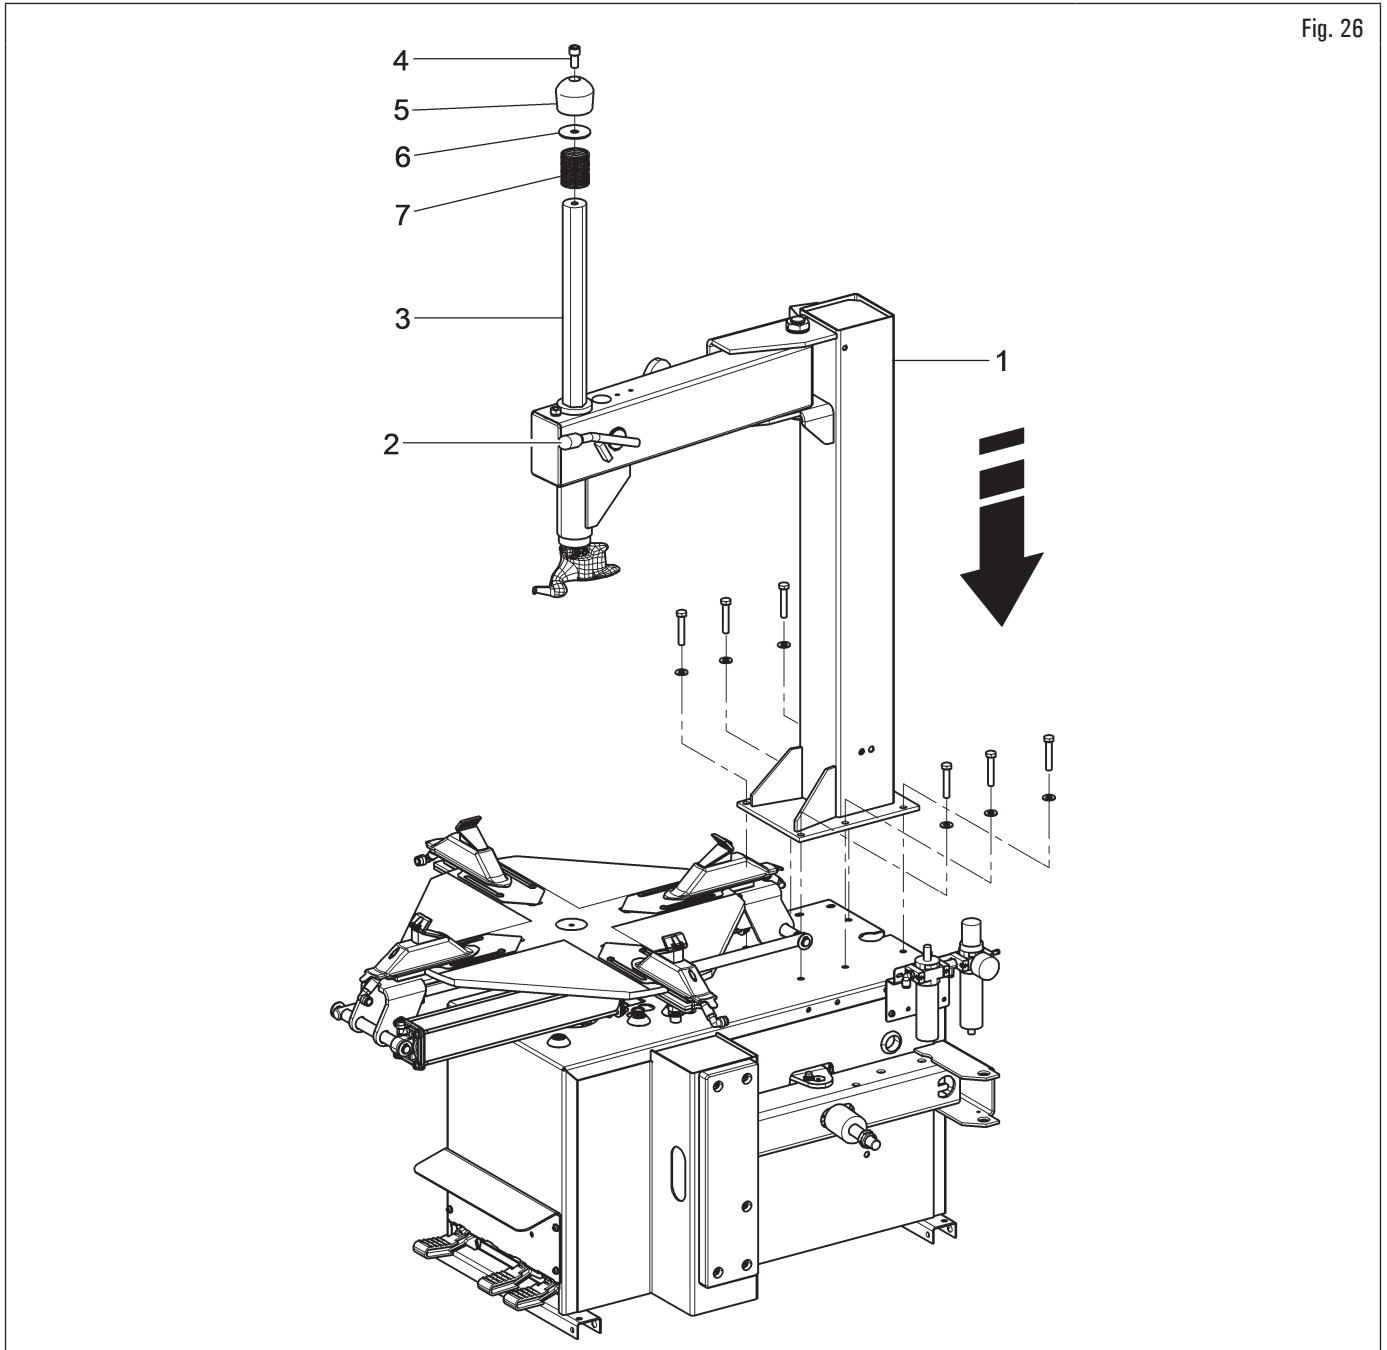

Fig. 26
2. unpack the post (Fig. 26 ref. 1) and put it vertically onto the base;
3. secure the post (Fig. 26 ref. 1) to the base using the supplied bolts;
4. unlock the lever (Fig. 26 ref. 2), bring the hexagonal post (Fig. 26 ref. 3) in high position and block the lever (Fig. 26 ref. 2); remove the bolt (Fig. 26 ref. 4) and the relevant knob (Fig. 26 ref. 5) with washer (Fig. 26 ref. 6) from the hexagonal post (Fig. 26 ref. 3) then fit the spring (Fig. 26 ref. 7); re-position washer, the knob (Fig. 26 ref. 5) and secure everything in place with the corresponding bolt (Fig. 26 ref. 4) (tightening torque 15 Nm - 11 ft-lbs).